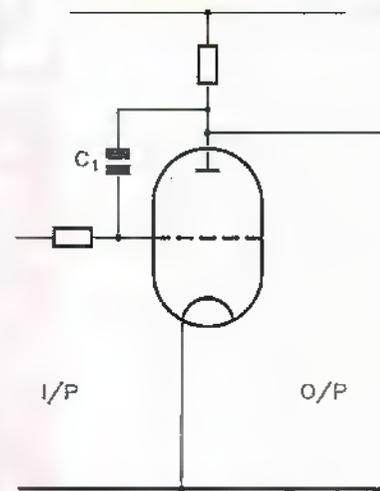

Figure 4. The Millar-Blumlein Time-base circuit of 1936.
practical use of this defect by increasing the stray capacitance with the addition of C1, in Figure 4. He'd first used the circuit – which he'd named after Millar – in his television (TV) frame scan circuit of 1936. Another six years would pass before he got around to patenting it.